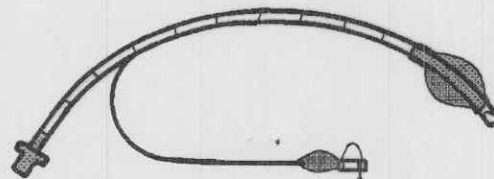

Figure 1-13. Tracheal tube.
(3) *Tracheal tube (fig 1-13).* A tracheal tube is furnished for use, if necessary, during bronchoscopic procedures.